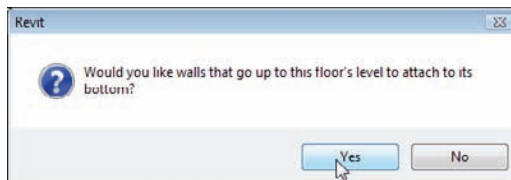

FIGURE 6.27 Click Yes to attach the walls to the floor's bottom.
6. Revit will start asking you questions. First Revit will ask whether you want to attach the walls that go up to Level 2 to the bottom of the floor. You *do* want to do this; this will cut the interior walls down to meet the bottom of the floor. Any change in the floor's thickness will alter the tops of the wall. Click Yes, as shown in Figure 6.27.